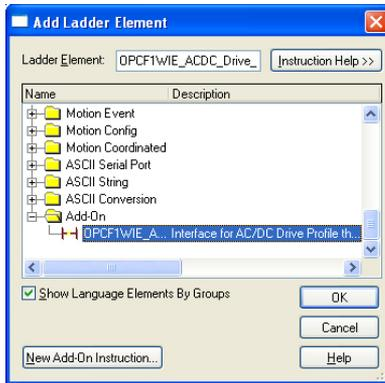

Figure 96: Add AC/DC Drive Profile AOI
- 8) Select the AC/DC drive profile AOI in the Add-On folder. Refer to Figure 96.